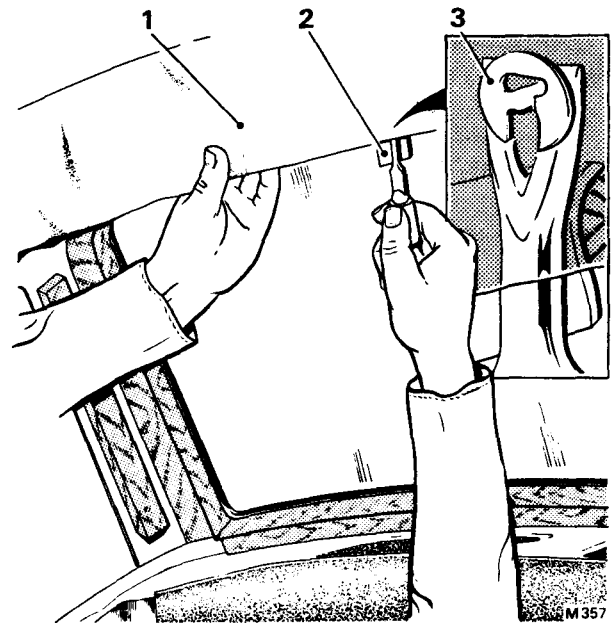

FIG. S44 DETACHING THE HEAD LINING ABOVE THE REAR WINDOW (Early 4-Door Saloon Cars)
11. Using the removal tool (see Operation 5) detach the upholstery clips securing the head lining trim into position above the window (see Fig. S44); note the strip of leather shown in the illustration to protect the wooden finisher. Lift the head lining forward as far as the rearmost listing bar.